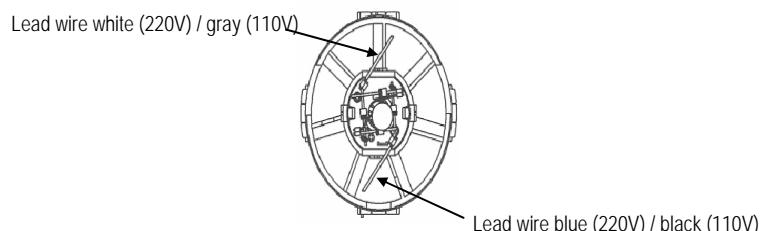

Figure 2
(1) Assembly the heater into slots of motor block assembly as shown in Figure 2.